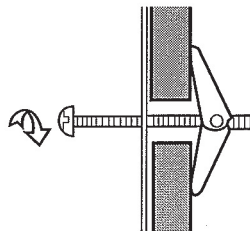

Figure 14
4. Align the Mounting Plate carefully and hold in position while tightening Toggle Bolts. Pull Toggle Bolt toward you and turn clockwise to tighten. Figure 14.